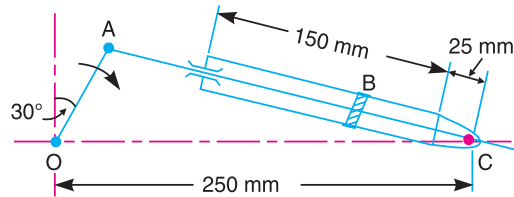

Fig. 8.45
10. In the oscillating cylinder mechanism as shown in Fig. 8.45, the crank OA is 50 mm long while the piston rod AB is 150 mm long. The crank OA rotates uniformly about O at 300 r.p.m.